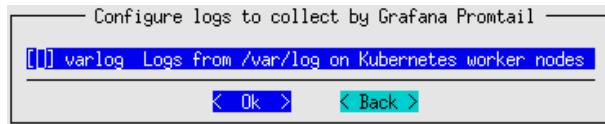

Figure 5.4: Log collection configuration for Grafana Promtail
- In the screen that configures logging for Grafana (figure 5.4), Grafana Promtail is recommended to have its collection disabled for /var/log from the Kubernetes worker nodes.